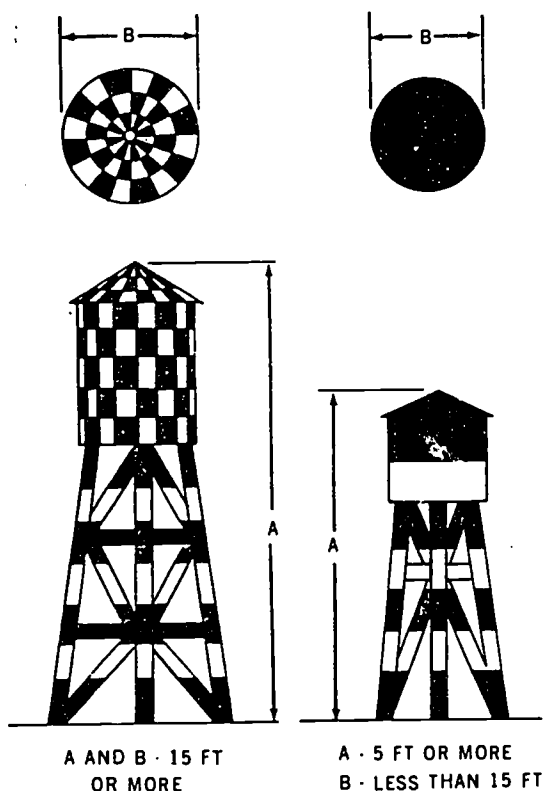

Figure 57. Marking water towers and similar obstructions.
and white. The widths of the orange and white bands shall be equal and the width of each band shall be approximately one-seventh the length of the major axis of the object, provided that each band shall have a width of not more than 40 feet nor less than $1\frac{1}{2}$ feet. The bands shall be perpendicular to the major axis of the obstruction. The bands at the extremities of the object shall be orange. Figures 57, 58, and 59 illustrate the application of this requirement.
c. Checkerboard Pattern. Objects with essentially unbroken surfaces, the projection of which on any vertical plane is 15 feet or more in both dimensions, shall be colored to show a checkerboard pattern of alternate rectangles of aviation surface orange and white. The rectangles shall be not less than 5 feet and not more than 20 feet on a side, the corner rectangles being orange. Figures 57 and 58 illustrate the application of this requirement.